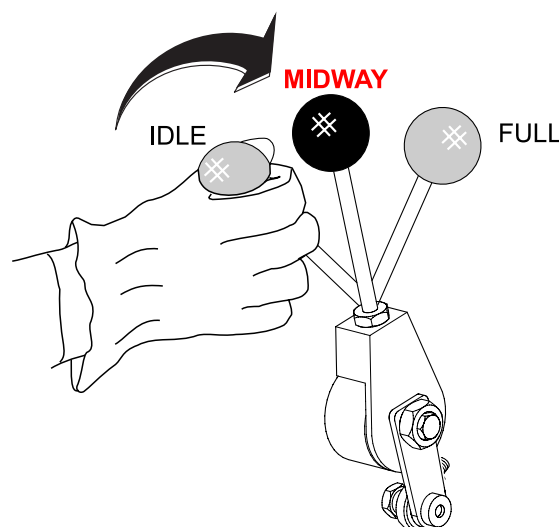

Figure 12. Engine Throttle Lever (Half Speed)
1. Move the engine throttle lever to the **midway** point between the **idle** speed and **full** positions. See Figure 12.